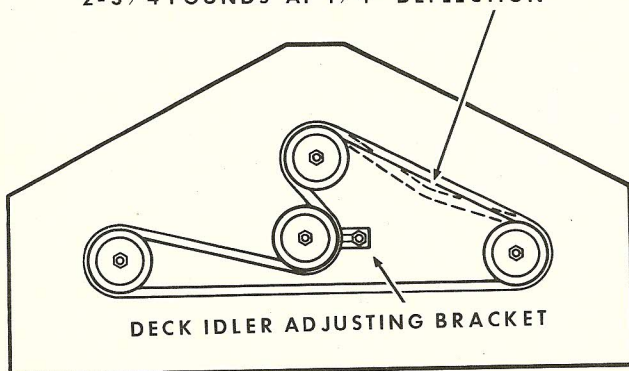

Figure 7
3. The driven belt must be installed as indicated in Figure 7.
4. To adjust the deck belt, loosen the deck idler adjustment bracket and slide it to the right to tighten. See Figure 7 for proper belt deflection.